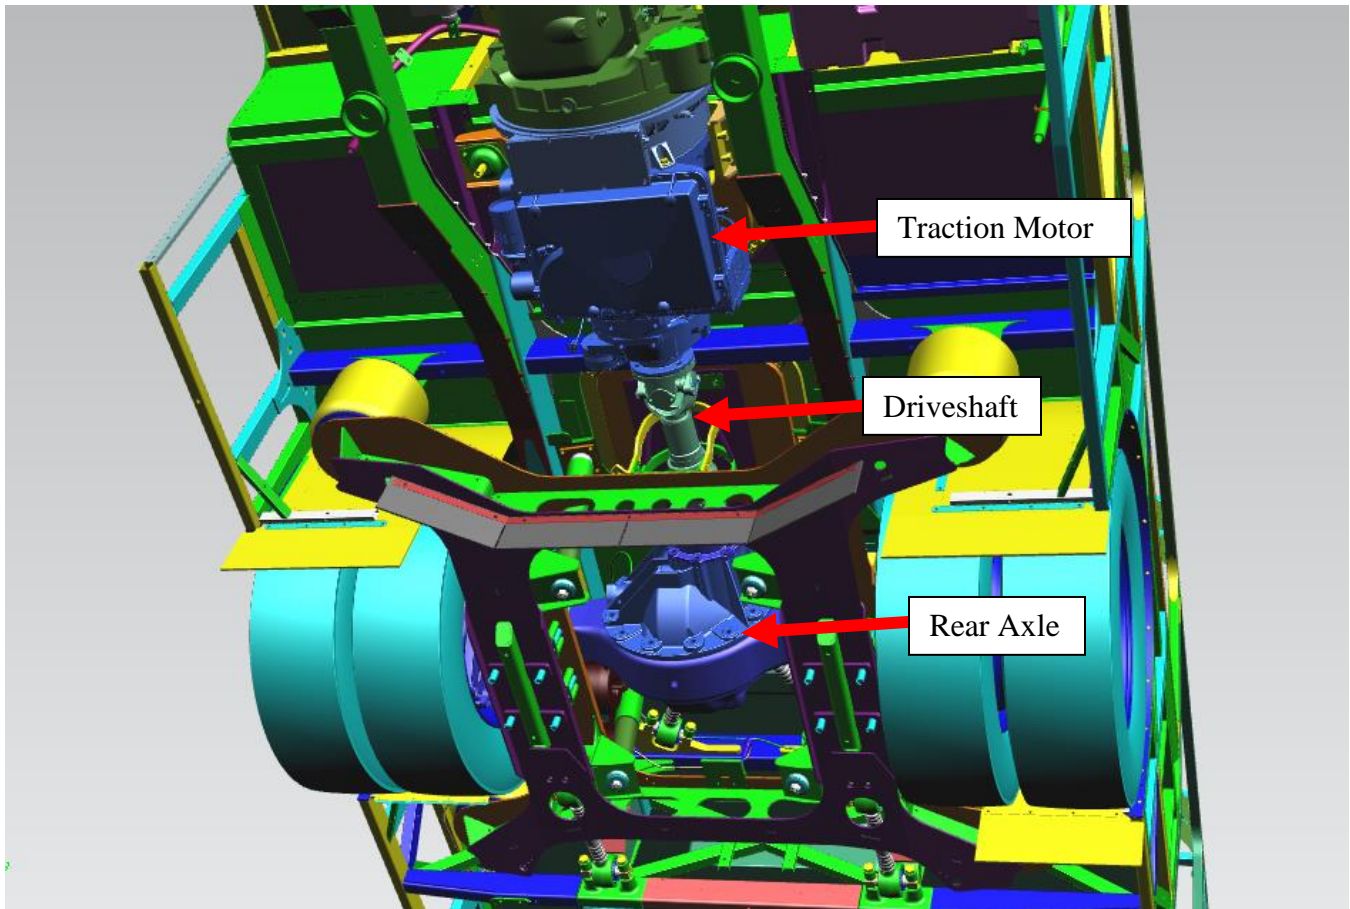

Figure 1: Rear underside of bus
3. Locate the driveshaft under the bus between the rear axle and the traction motor in figure 1.